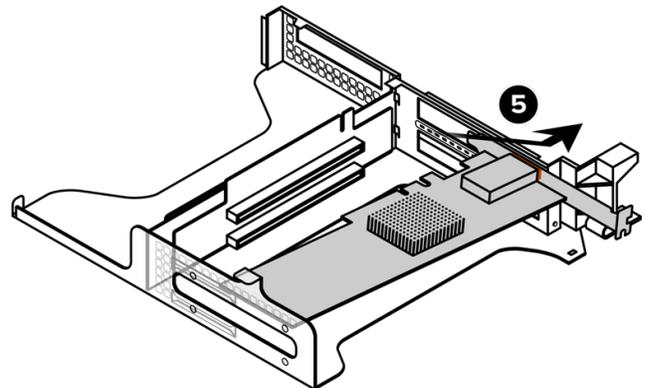

Figure 18-2. Inserting Ports Through Aperture
5. Tip the HBA slightly and extend the ports of the card through the slot 1 aperture on riser 0. Do not insert the card into the slot yet. See Figure 18-2.